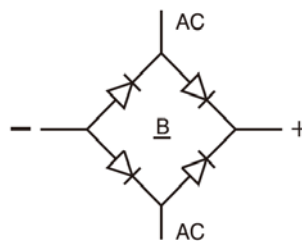

FIGURE 2
2. Surge current waveform per Figure. 3 and derate per Figure. 2